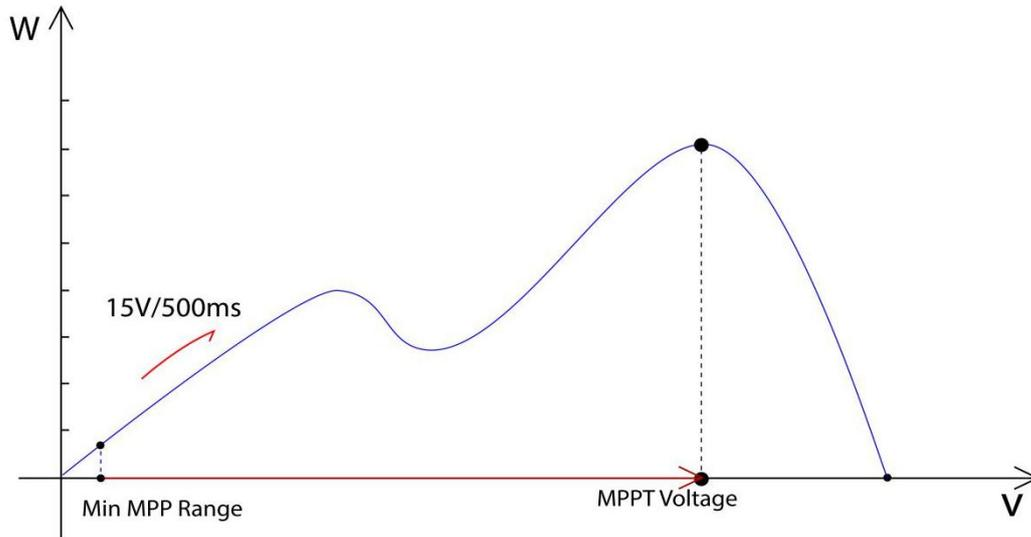

Fig 6. Track Back to The MPP Voltage
* THIRD STEP: Track Back to The MPP Voltage (Fig 6)